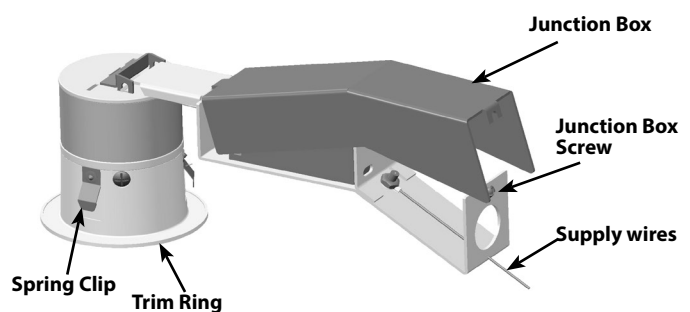

Fig: 2
6. Loosen the **Junction Box Screw** and open the **Junction Box** (Fig.2). Attach **Supply Wires** into **Junction Box** and connect to the fixture. See wiring section for details.
1. Install **Ceiling Collar** into opening. Secure Ceiling Collar by pushing fingertabs down tightly over ceiling. Fig. (3)
2. Loosen the **Junction Box Screw** and open the **Junction Box** (Fig.2). Attach **Supply Wires** into **Junction Box** and connect to the fixture. See wiring section for details.